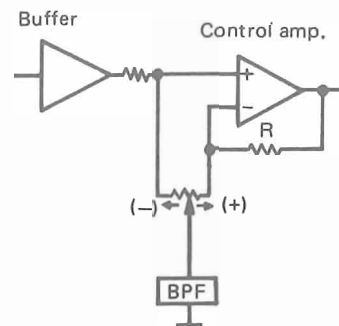
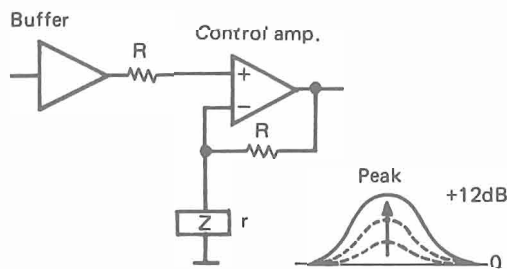
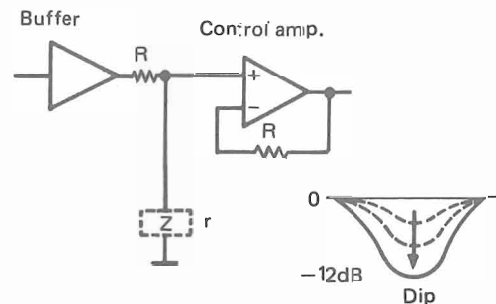

Fig. 2
Fig. 3
Fig. 4
The equalizer circuit of this unit is shown in Fig. 2. When the control volume (VR) is turned in the direction of $\rightarrow (+)$, NF level lowers with the connection shown in Fig. 3. causing the gain of operation amplifier to increase, then the "peak" appears. Contrarily, when VR is turned in the direction of $\leftarrow (-)$, the input impedance of operation amplifier becomes lowered with the connection shown in Fig. 4. Then the frequency level is "dip".